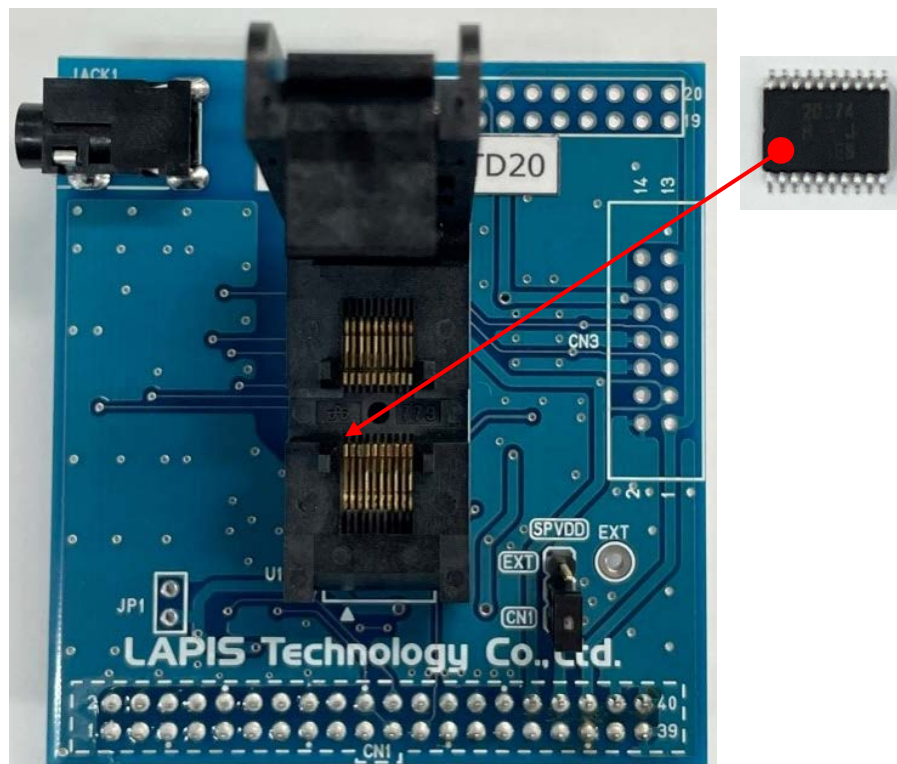

Figure 1 Outline Diagram
- Turn off the power when loading Speech Synthesis LSIs into the RB-S22Q294TD20. Pin 1 is the position of the board silk ▲ at the bottom left with respect to the socket opening. The Figure 1 shows the setting directions of Speech Synthesis LSIs.